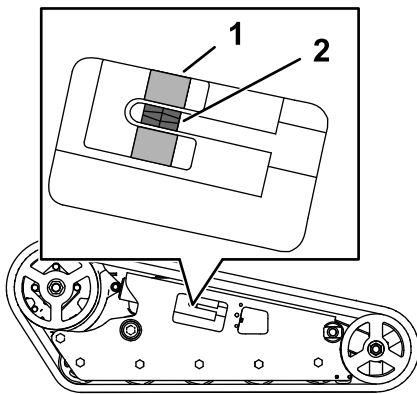

Figure 58
- Using a 1/2 inch drive ratchet, turn the tensioning screw until the tension block aligns with the green guide on the decal or is 1.3 cm (1/2 inch) away from the rear of the tension tube slot (Figure 58).
- Verify that the tension block aligns with the green guide of the decal or is 1.3 cm (1/2 inch) away from the rear of the tension tube for both tracks (Figure 58). Adjust if necessary.
Verify that the tension block is aligned with the green guide on the decal or that the block is 1.3 cm (1/2 inch) away from the rear of the tension tube slot (Figure 58).